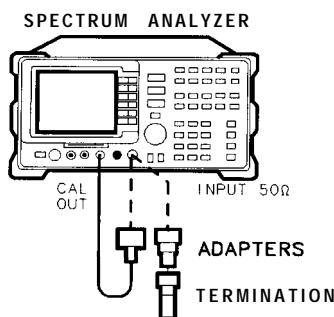

Figure 2-73. Displayed Average Noise Level **Test** Setup for Option 130
1. Connect a cable from the CAL OUT to the INPUT  $50\ \Omega$  of the spectrum analyzer as shown in Figure 2-73.